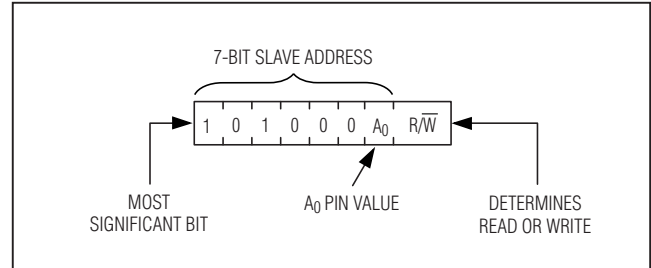

Figure 11. DS3994's Slave Address Byte
**Slave Address Byte:** Each slave on the I2C bus responds to a slave addressing byte sent immediately following a start condition. The slave address byte (Figure 11) contains the slave address in the most significant seven bits and the R/W bit in the least significant bit.